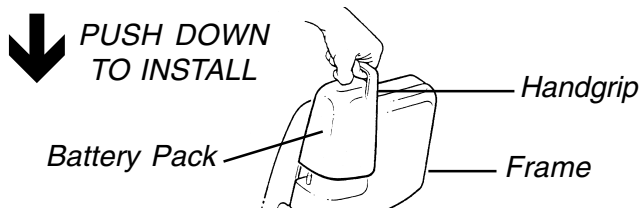

FIGURE 5 - INSTALLING THE BATTERY PACK
6. Install the battery pack by grasping the handgrip and sliding the battery pack onto the charger connector on the frame (FIGURE 5).